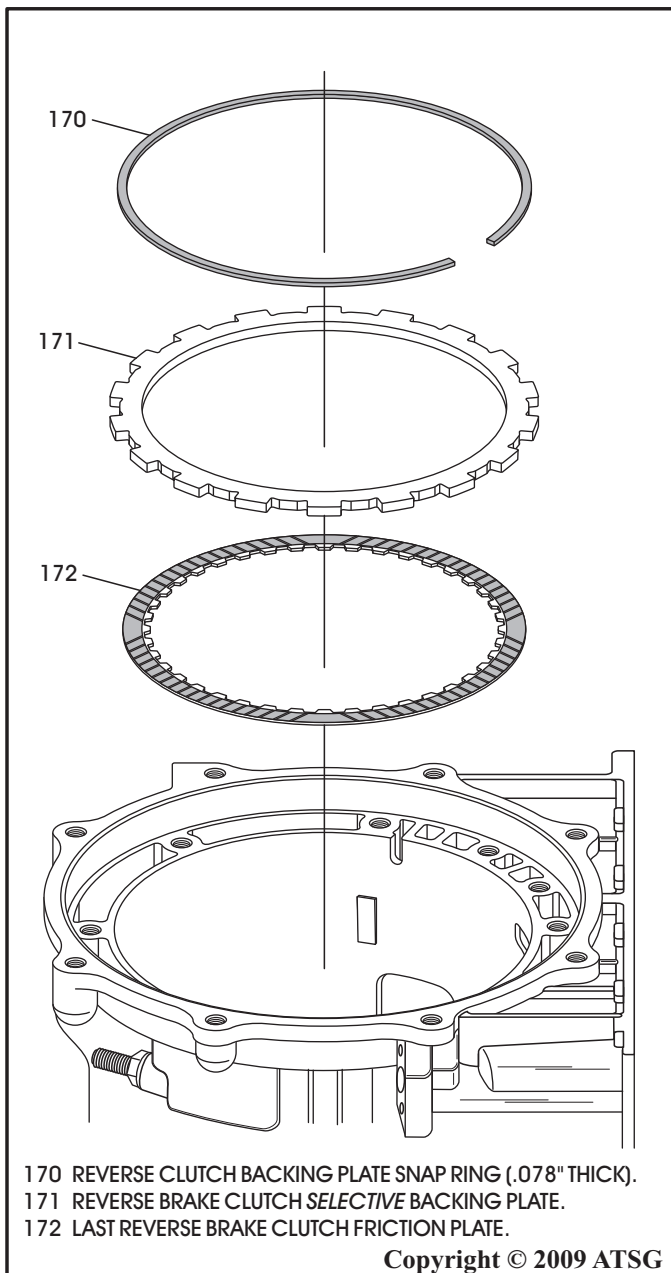

Figure 205
33. Now we can install the last reverse brake clutch friction plate, as shown in Figure 205.
34. Install the reverse brake clutch backing plate, as shown in Figure 205.
35. Install the reverse brake clutch backing plate snap ring, as shown in Figure 205, and ensure that it is fully seated.